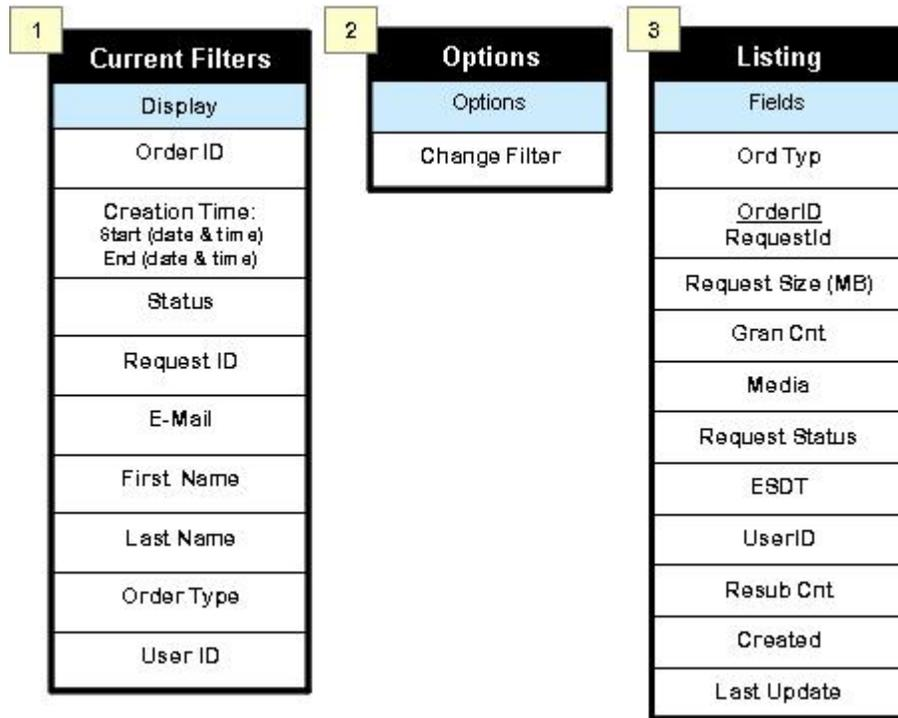

Figure 15.8-2. Historical Distribution Requests Page – Fields and Options
- 3 Observe the historical information displayed in the three working parts of the **Historical Distribution Requests** page (Figure 15.8-2):